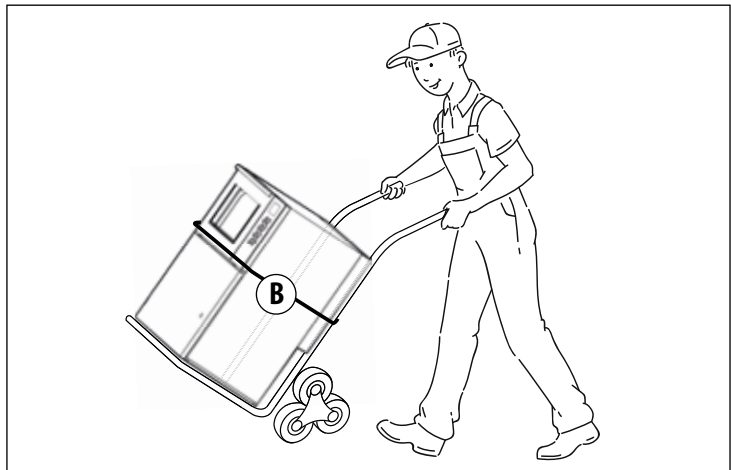

Fig. 6
- Handle the machine with appropriate trolley. Lock the machine on the trolley with a sturdy belt (B Fig. 6)